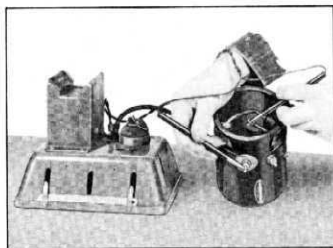

Fig. 27—Field Coil Test for Continuous Circuit
1. Place the test prod leads on the field coil terminals (fig. 27).